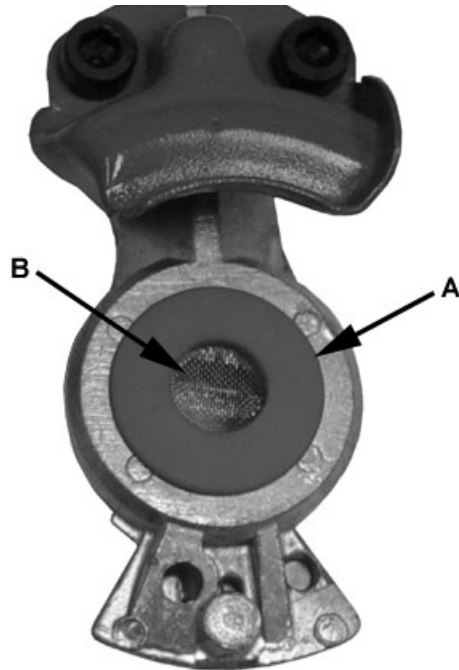

Figure 8-9 Glad Hand Seals And Screens
Inspect all glad hand seals (A) and screens (B) (if equipped) for damage and wear. Replace if damaged or worn. See figure 8-9.